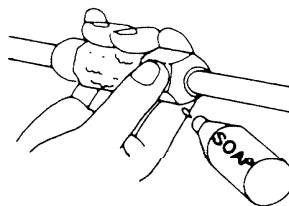

Fig. 8
- Check gas leakage of all joints with liquid soap. Fig. 8